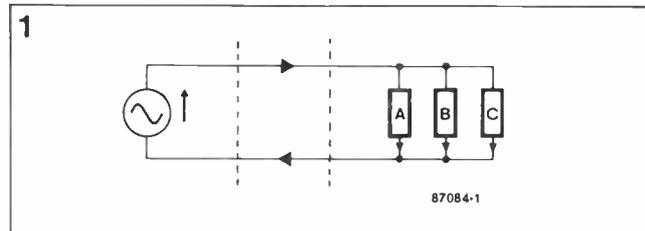

Fig. 1. Basic power supply system.
The usual source of power is the mains supply. A simple circuit diagram (Fig. 1) of how this works shows a generator (supply) which generates a voltage which is distributed to many different places where different loads are put on the system. For the system to work, the supply of voltage has to be standard and the load current will vary with different loads (resistance). A higher power load will take more current than a low power load, but they will both be rated and operate off the same voltage level which is a standard supply voltage (240 V for the UK domestic supply).
different systems, namely, a.c. and d.c.? As Fig. 1 shows electricity has to be generated in one place and then distributed through some distance to different loads in another place. Although there are very many different loads they normally fall into one of three categories: (1) heaters, (2) motors, and (3) electronics. Electronics in this instance covers everything